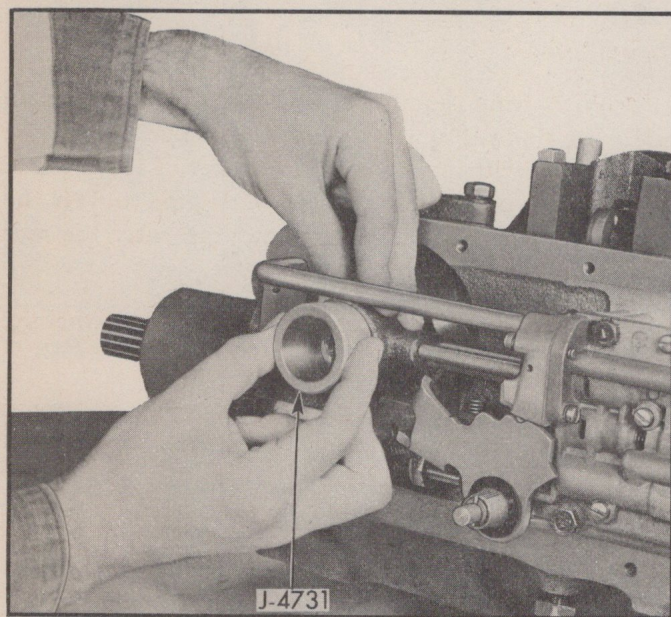

Fig. 99—Using Governor Alignment Tool J-4731
b. Install governor alignment tool J-4731 between governor and bracket as shown in Fig. 99. With tool in place torque rear pump bolts to 15-18 lb. ft. and tighten parking bracket bolts.